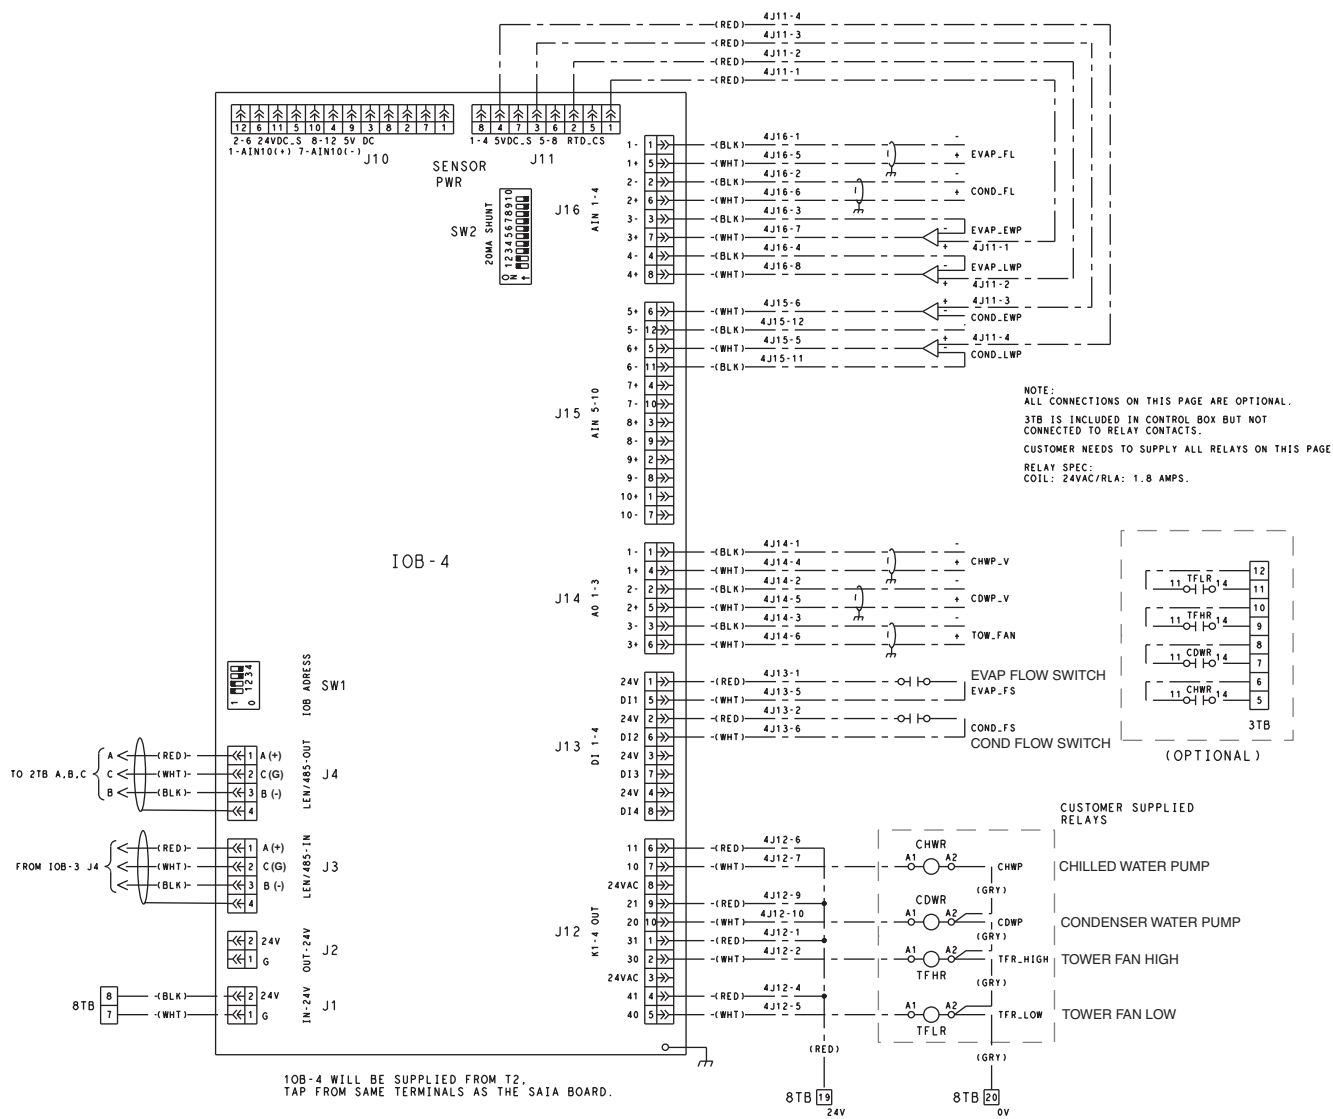

Fig. 9 — IOB 4
1. See Fig. 9 for IOB4 wiring diagram.
2. For pressure readings, only Vout (output) terminal is indicated. See Fig. 9 for Vin (+) and ground (–).